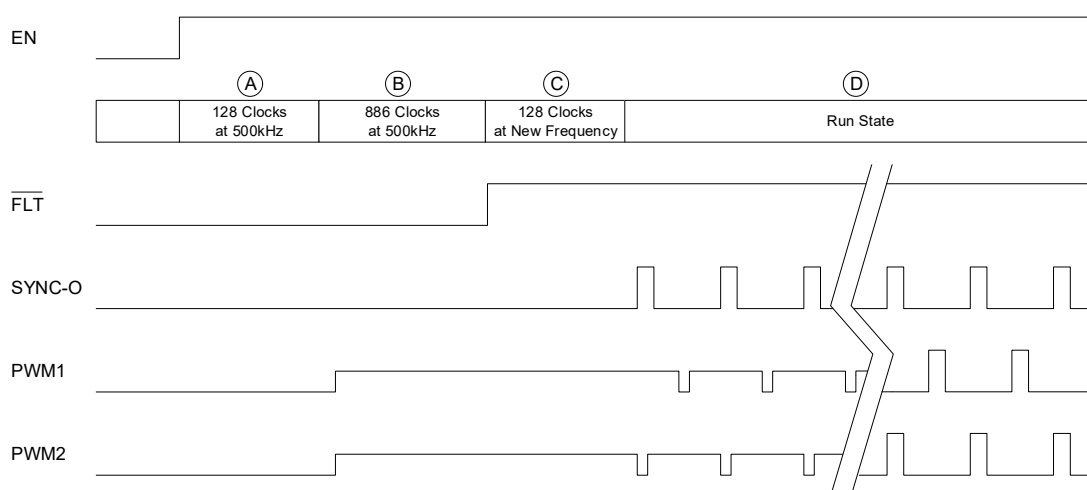
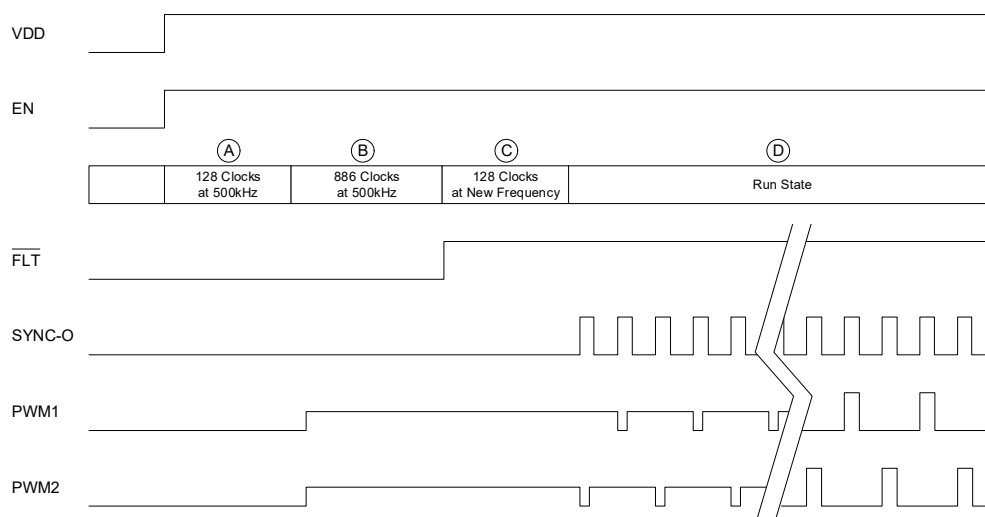

Figure 52. Start-Up Timing Diagram ($R_{\text{SYNC-O}} = \text{OPEN}$)
Figure 53. Start-Up Timing Diagram ($R_{\text{SYNC-O}} = 100\text{k}\Omega$)
When the ISL73847M first powers up, it goes through several states before boot refresh and soft-start. After VDD has crossed the rising UVLO threshold, the oscillator waits for 128 clock cycles at 500kHz before allowing the digital core to enter its configuration state. The configuration state lasts 886 clock cycles at 500 kHz. When the digital core completes its configuration, it signals the oscillator to switch to the frequency set by the FS pin or SYNC-I. After an additional 128 clock cycles at the new frequency, boot refresh pulses commence, followed by soft-start. Figure 52 and Figure 53 illustrate the start-up sequence.
During states A and C in Figure 52 and Figure 53, the oscillator blanks the clock signal to the digital core. Therefore, the oscillator has time to stabilize its frequency before entering the configuration state (B) or run state (D).